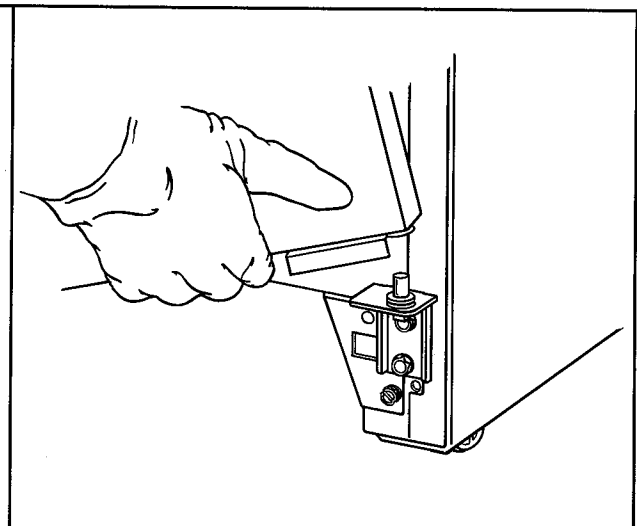

Figure 13
- b. Grasp refrigerator door securely and lift door upward as you open it. This will free refrigerator door from bottom hinge pin plate. See Figure 13.